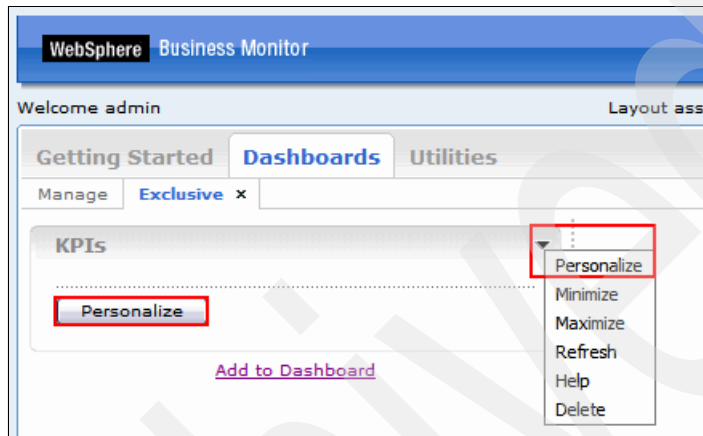

Figure 3-67 Personalizing KPIs
1. On the dashboard, choose one of the following options to access the Personalize mode (Figure 3-67):